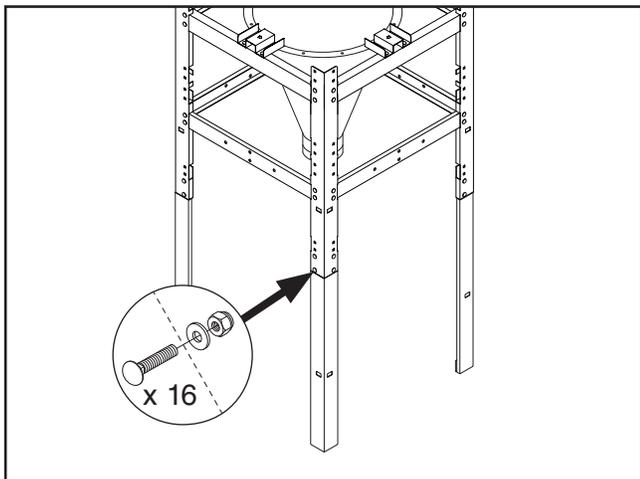

Figure 14. Attaching lower legs to the initial stand assembly.
18. Using forklift or assistants, raise assembly and attach lower stand legs to upper stand legs, as shown in **Figure 14**, with (16) $\frac{5}{16}$ "-18 x $\frac{3}{4}$ " carriage bolts, $\frac{5}{16}$ " flat washers, and $\frac{5}{16}$ "-18 hex nuts.